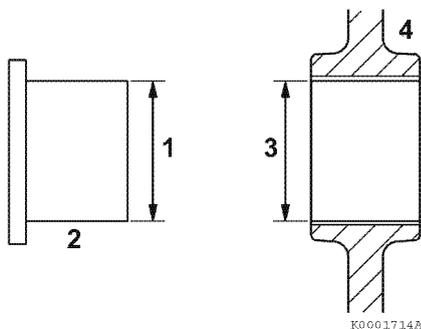

Figure 6-85
1. Measure the outside diameter (1, **Figure 6-85**) of the idler gear shaft (2, **Figure 6-85**). See *Idler Gear Shaft and Bushing on page 6-8 for specifications*.
2. Measure the inside diameter (3, **Figure 6-85**) of the idler gear bushing (4, **Figure 6-85**). See *Idler Gear Shaft and Bushing on page 6-8 for specifications*.